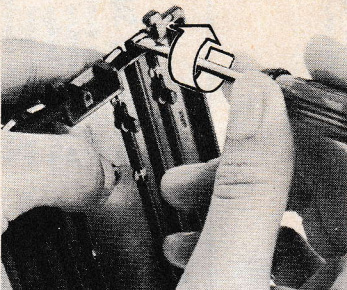
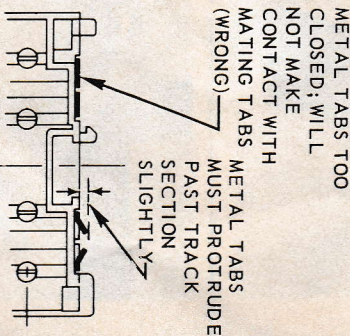

FIGURE 3
FIGURE 4
3. Power rails making proper contact. Metal tabs on power rails must touch each other at track joints. Tension may be adjusted by prying tabs with small screwdriver (fig. 3 & fig. 4).